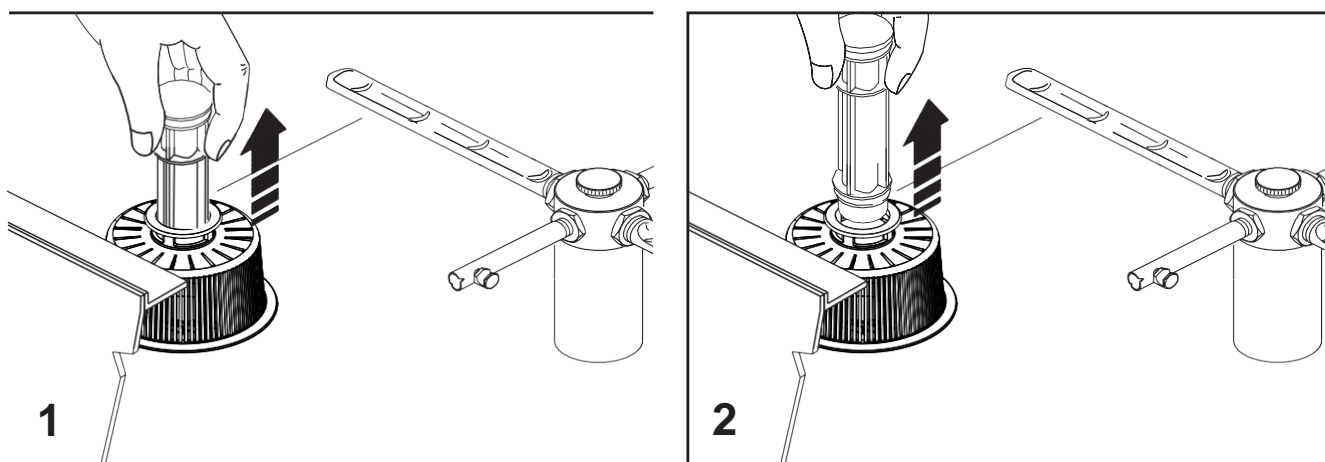

Fig. 16
2. *remove the overflow pipe (fig. 16)*